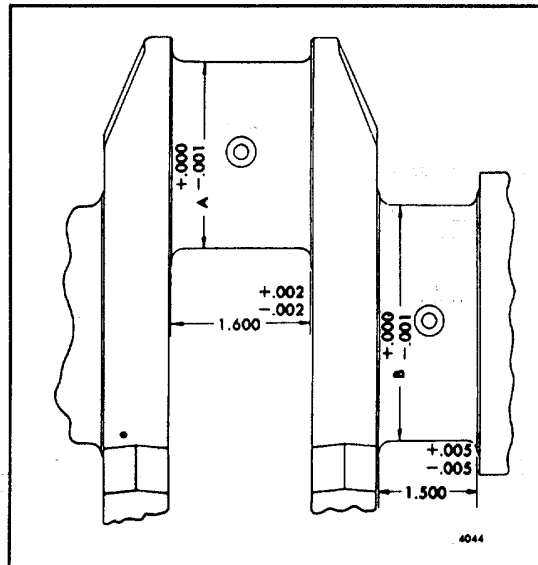

Fig. 7 - Dimensions of Crankshaft Journals - In-Line Engine
Measure all of the main and connecting rod bearing journals (Fig. 7). Measure the journals at several places on the circumference so that taper, out-of-round and bearing clearances can be determined. If the crankshaft is worn so that the maximum connecting rod journal-to-bearing shell clearance (with new shells) exceeds .0045 " (In-line engine) or the main bearing journal-to-bearing shell clearance (with new shells) exceeds .0040" (In-line type engines), the crankshaft must be reground. Measurements of the crankshaft should be accurate to the nearest .0002". Also, if the journal taper or out-of-round is greater than .003 " the crankshaft must be reground.
1. Compare the crankshaft journal measurements taken during inspection with the dimensions in Table 1 and Fig . 7 and determine the size to which the journals are to be reground.